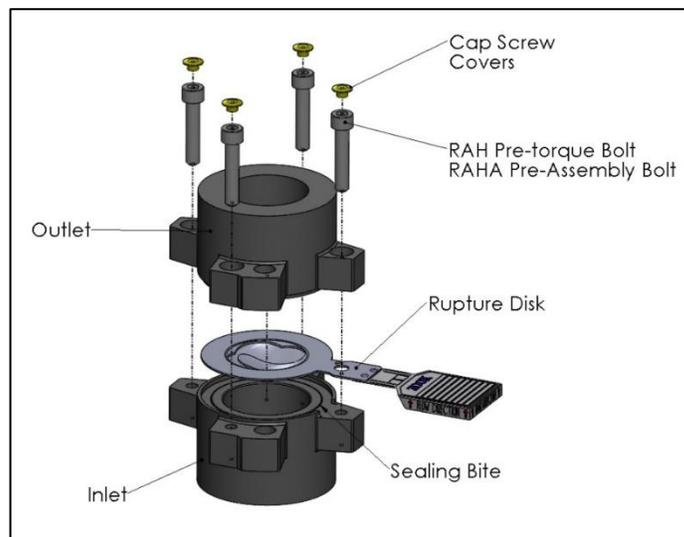

Figure 1. RAH Holder
- (1) Pre-Assembly SHCS should be free-running non-coated stainless steel. Fasten the assembly together by reinstalling the pre-assembly SHCS as shown in figure 1. The pre-assembly screws should be lightly tightened with wrench 1/8 of a turn past first contact with holder. Over-torqueing can damage holder or bolt. Sealing of the disk is obtained by tightening of the companion flange studs and nuts, NOT via tightening of the pre-assembly bolts.
- (1) Fasten the assembly together by reinstalling the SHCSs as shown in figure 1 finger tight before torquing. **High strength** SHCSs are supplied with the assembly, **DO NOT SUBSTITUTE**, high strength material is required for correct assembly.
- (2) Torque Values assume threads with a coefficient of friction of  $\mu = 0.08$ .
- (3) Using a torque wrench, develop the required torque incrementally in a minimum of four (4) steps in a crisscross pattern. The initial torque should be no more than 25% of the final required torque listed in table #1. After following this sequence, a final tightening should be performed SHCS-to-SHCS to ensure that all SHCSs have been evenly torqued.
- (4) SHCSs when tightened correctly will properly seat the rupture disk into the holder engaging the sealing bite. They do not eliminate the need for proper flange bolt tightening for proper functionality of the assembly.
- (1) Fasten the assembly together with **lightly oiled** 17-4 stainless steel SHCS as shown in figure 1 finger tight before torquing. **High strength** SHCS are supplied with the assembly, **DO NOT SUBSTITUTE**, high strength material is required for correct assembly. If SHCS are not lightly oiled the rupture disk may not be fully seated for optimal performance.
- (2) Torque Values assume threads lightly oiled with a coefficient of friction of  $\mu = 0.08$ .